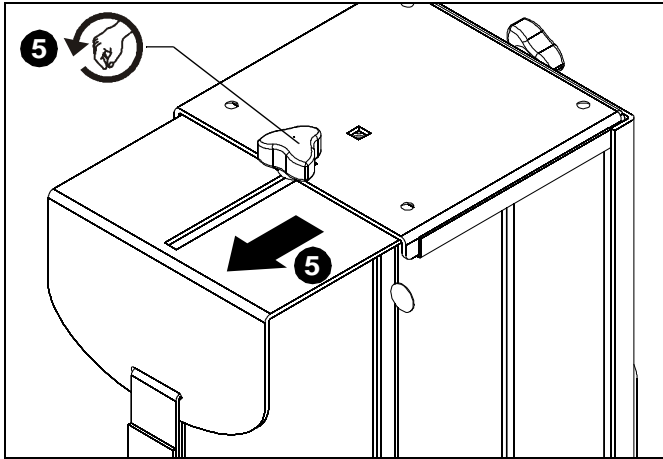

Figure 5
- Loosen adjustment knobs on top and bottom of the mount and slide flanges in order to allow for the CPU to be inserted for mounting. (See Figure 5)
NOTE: Top and bottom knobs can be removed and inserted into the front square holes in order to allow for large CPU's to be installed. (See Figure 5)